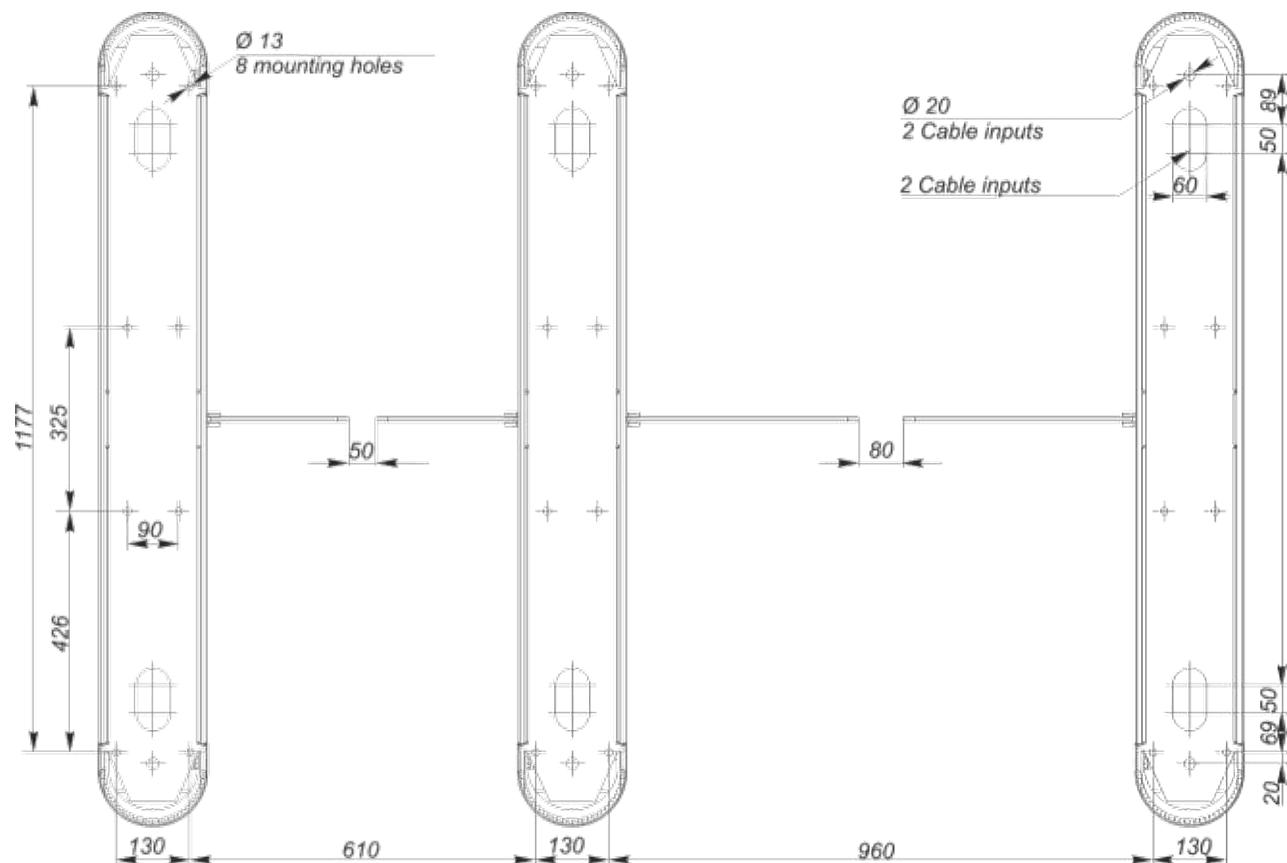

Fig.14– Installation dimensions of SWEEPER-HG-BM
- 5) The turnstile fixation holes to be marked on the area surface according to Figure 14 (for turnstiles with 550 mm and 900 mm lanes). The turnstile itself can be used as a template.